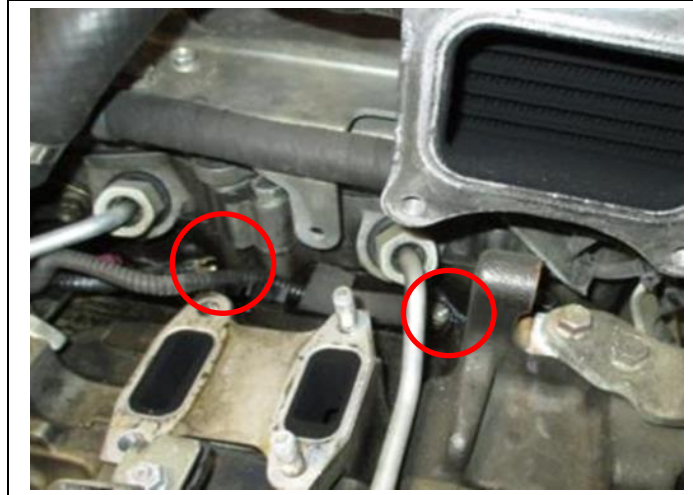

Figure 17
22. Install the new glow plug terminal onto the glow plug and torque the nut to 1.2 Nm (10.5 lb-in). (See Figure 17.) Replace any harness clips that were removed to gain access.